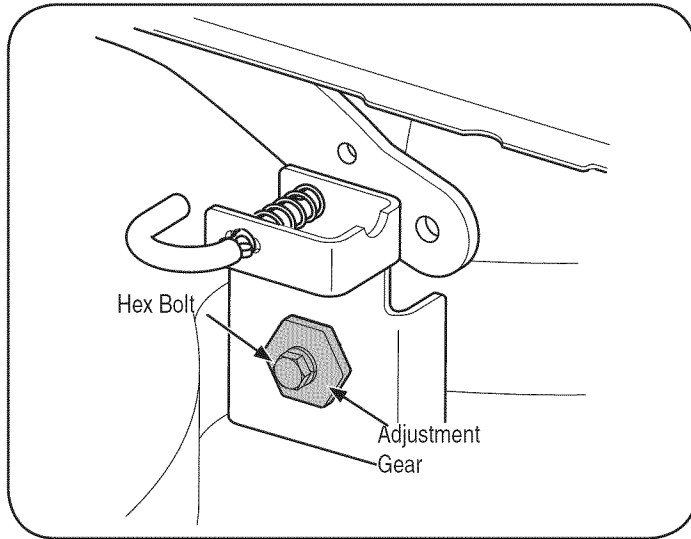

Figure 28
- Loosen, but do NOT remove, the hex bolt on the left deck hanger bracket. See Figure 28.
- Using a wrench, raise or lower the left side of the deck by turning the adjustment gear. See Figure 28.